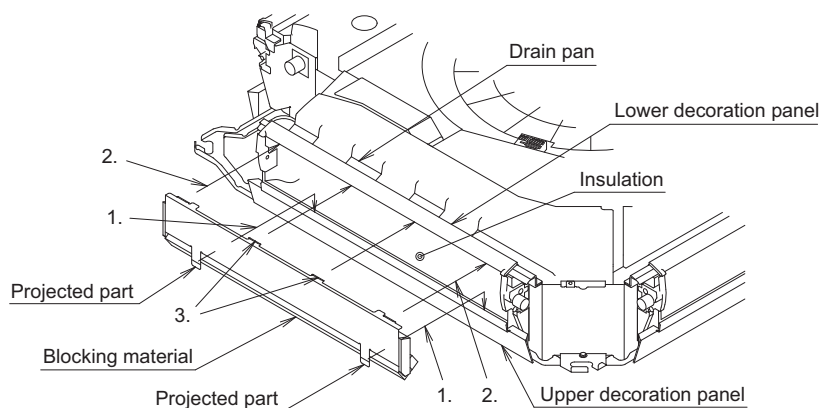
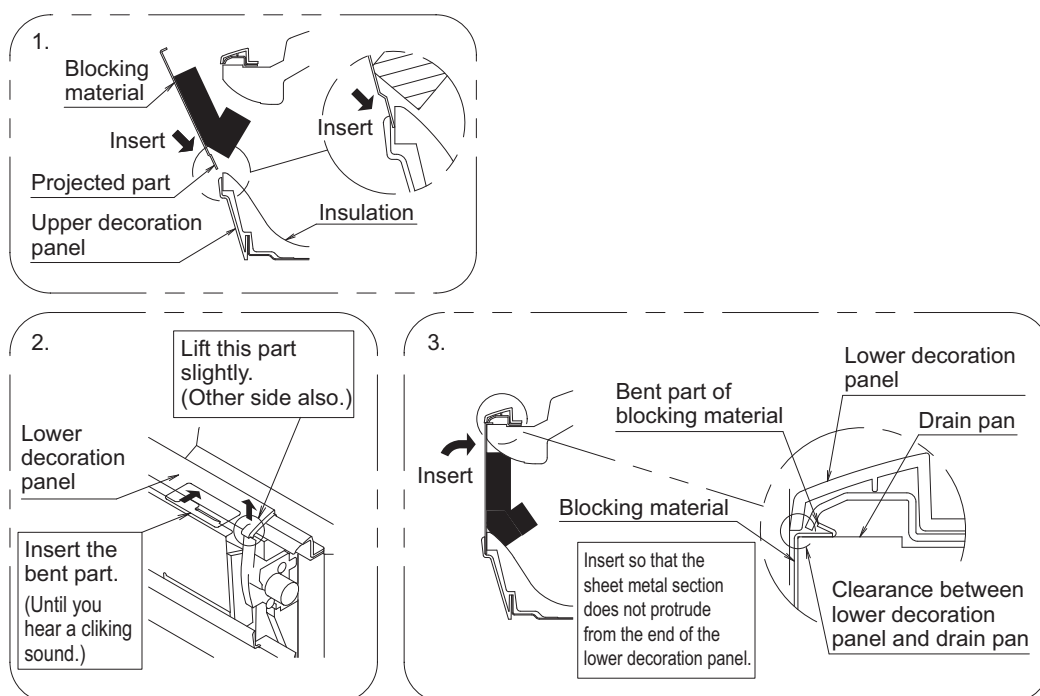

Fig. 12
Fig. 13
(2) Fix the blocking material to the air outlet. (Refer to Fig. 12 and Fig. 13)